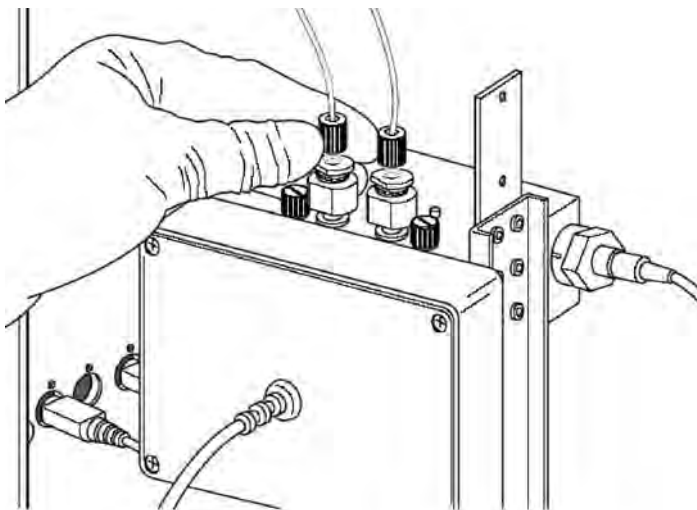

Fig. 13.20. Removing the two tubing fittings from the top of the flow cells; follow this procedure for each flow cell.
3. Remove the two tubing fittings from the top of the flow cells; mark them so they can be reconnected to the same flow cell (Figure 13.20).